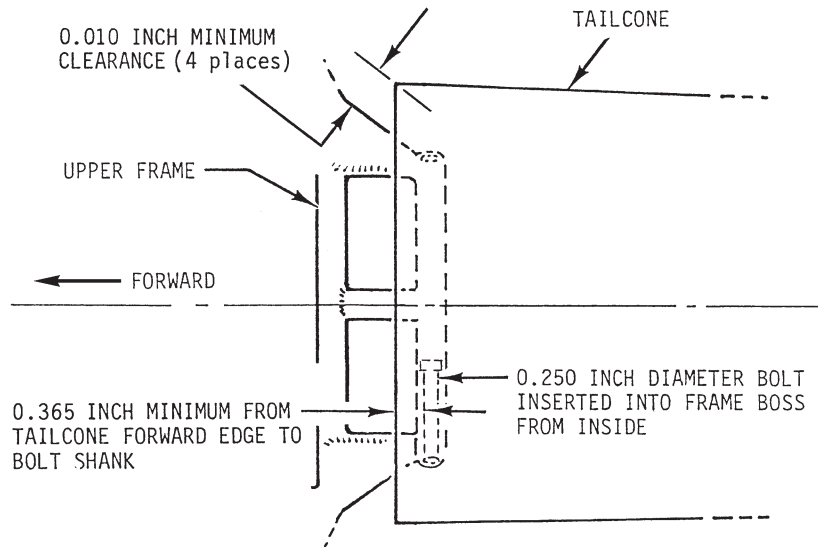

FIGURE 4-2D
9. Refer to Figure 4-2D. Verify clearance between tailcone assembly and upper frame.
6. Refer to Figure 4-2D. Verify 0.010 inch minimum gap between upper frame tubes and tailcone forward edge (4 places). Place a straight edge across forward face of tailcone and verify 0.365 inch minimum between straight edge and mounting bolt shank inserted in frame boss (4 places). Push tailcone forward or pull aft as required to maintain dimensions.